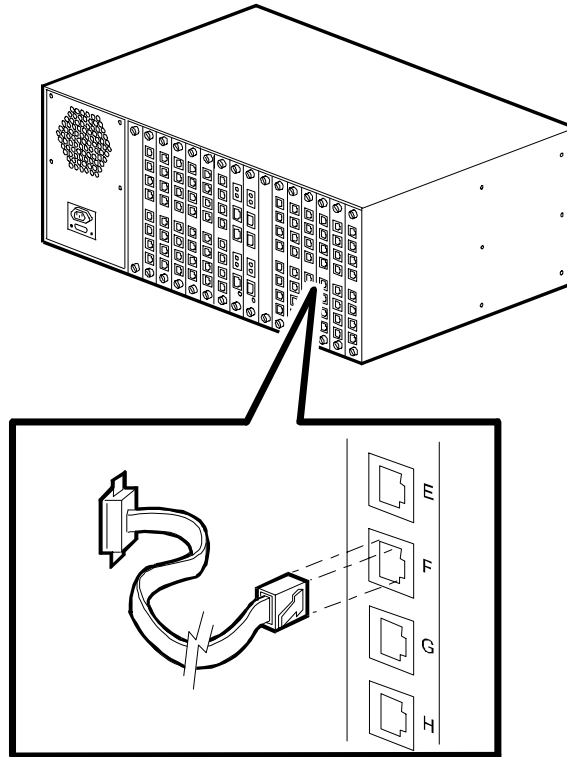

Figure 2-7. Connecting an RJ45 Serial Cable
6. Once you have installed all digital adapter cards, you need to attach serial cables by plugging RJ45 cables into the RJ45 style connectors labeled **A, B, C, D, E, F, G, and H** (for 8-port) or **A, B, C, and D** (for 4-port) of each adapter card. See Figure 2-7. Attach each serial connector to a terminal server or other DTE device.